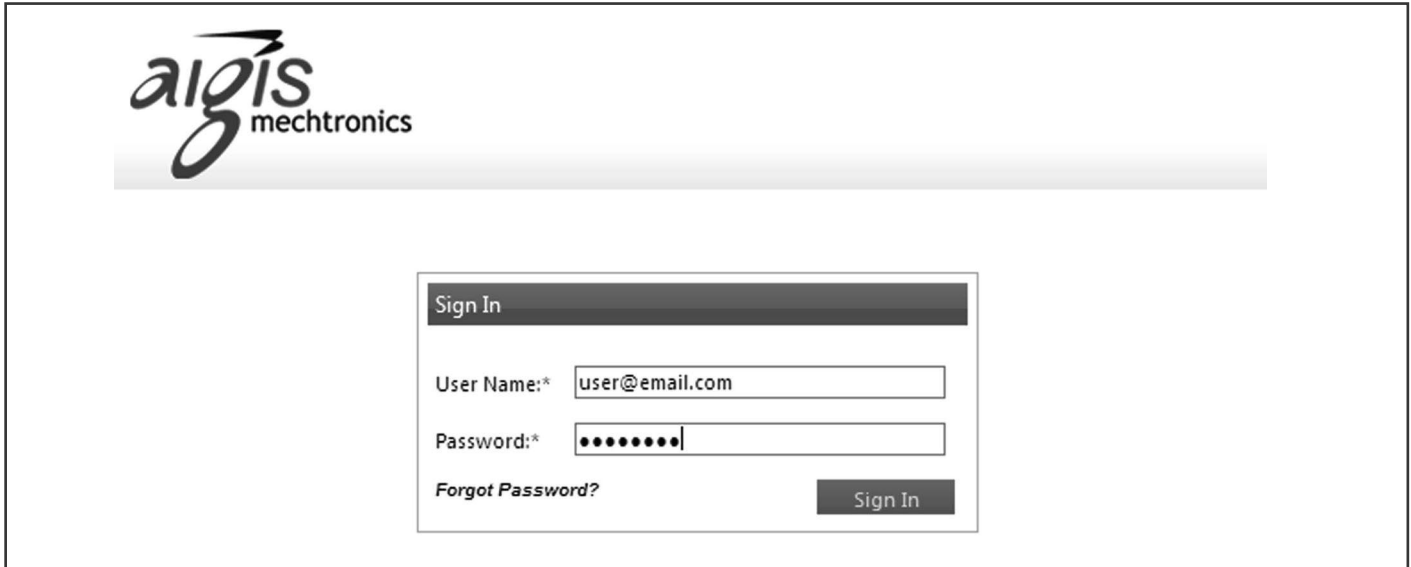

Figure 2: Log in Screen
1. Log in to the customer website using the provided login details. If the customer did not supply the installer with the necessary details, contact Aigis Mechtronics for instructions. See **Figure 2**.